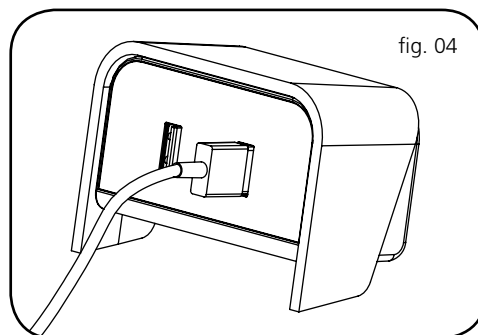

fig. 04
5. Once the module is connected to the power supply your device can be charged using any standard USB cable (fig. 04).